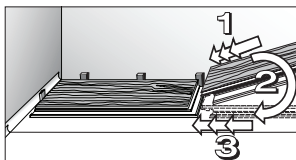

Figure 3
- Install second and subsequent full pieces in the first row by aligning short ends of boards and locking into place (Fig. 3).
- Use spacers along all sides that butt up against walls to maintain a 1/4" (6.35 mm) expansion zone (Figs. 3 & 4).